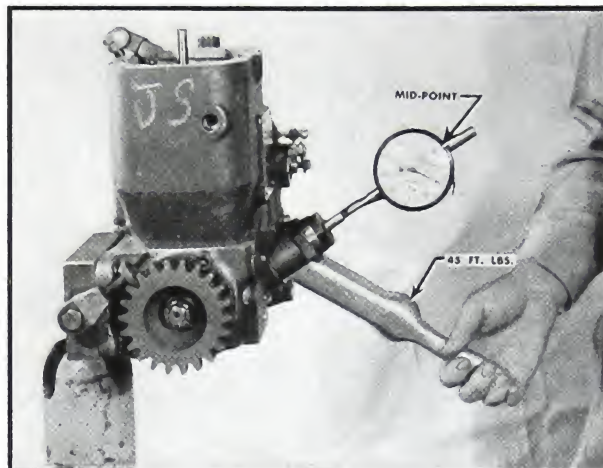

Fig. 5-345. Torque drive nut
7. With the dial indicator resting at this position and with the disc still aligned as described in "Step 2", hold the coupling and tighten the disc driving gear nut to 45 foot-pounds with a torque wrench. Fig. 5-345.